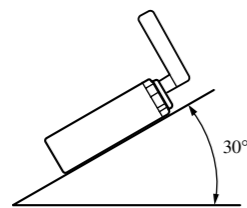

Fig. 6
- If installation angle exceeds 30° from horizontal, the unit might not give its optimum performance. (Fig. 6)